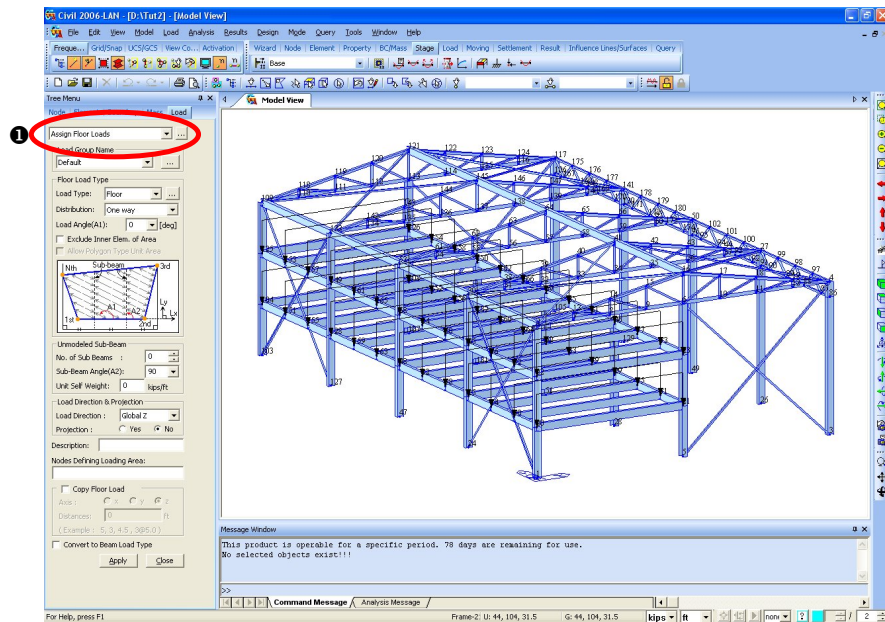

Figure 2.19 Data Entry for Floor Loads
1. Select **Assign Floor Loads** in the functions selection field (Fig.2.19–①).
3. Enter “**Floor**” in the **Name** field of **Floor Load Type & Description**.^②
5. Select “**DL**” in the **Load Case 1**. selection field of **Floor Load & Load Case** and enter “**- 0.1**” in the **Floor Load** field.^③